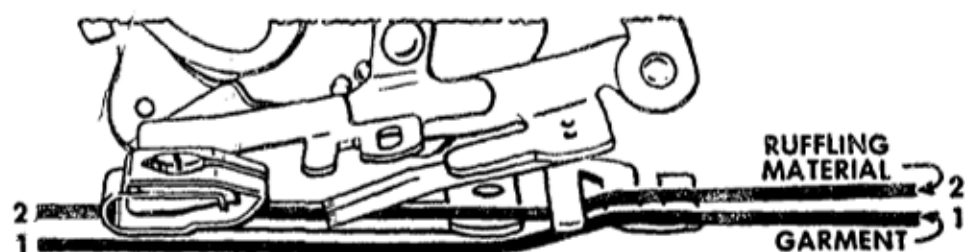

Fig. 66. Correct Positions for Materials
1. Insert material to be ruffled between two blue blades Line 2, Fig. 66.
2. Place material to which ruffle is to be attached under separator blade Line 1, Fig. 66.